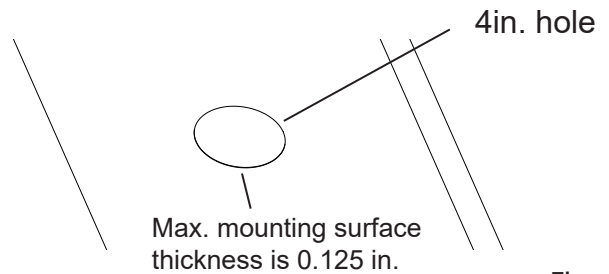

Figure 3
- To prevent inadvertent rotation of the luminaire, LSI recommends installing (2) of the (4) provided self-drilling fasteners in opposite corners (See Figure 3). Ensure fasteners are snug--do not over-tighten to prevent possible strip-out. Self-drilling fasteners may be installed before or after Step 5.
- (Optional) Insert (4) fastener Plugs provided covering fastener openings in Luminaire.